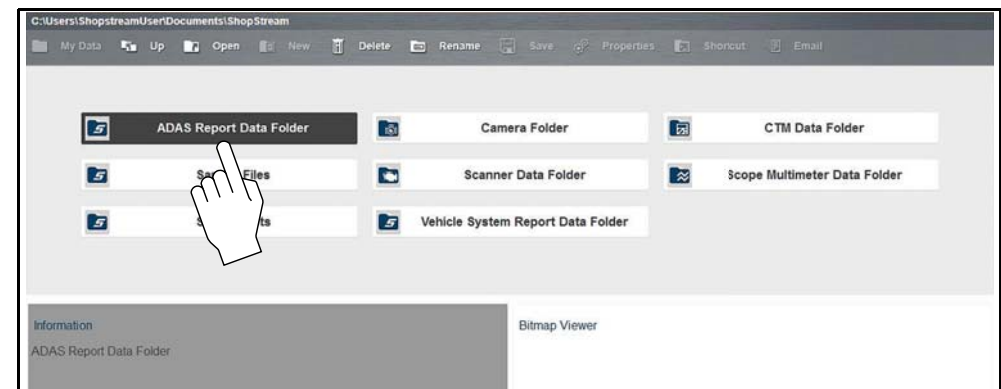

Figure 18-5
2. Select and open the ADAS Report Data Folder (Figure 18-5).